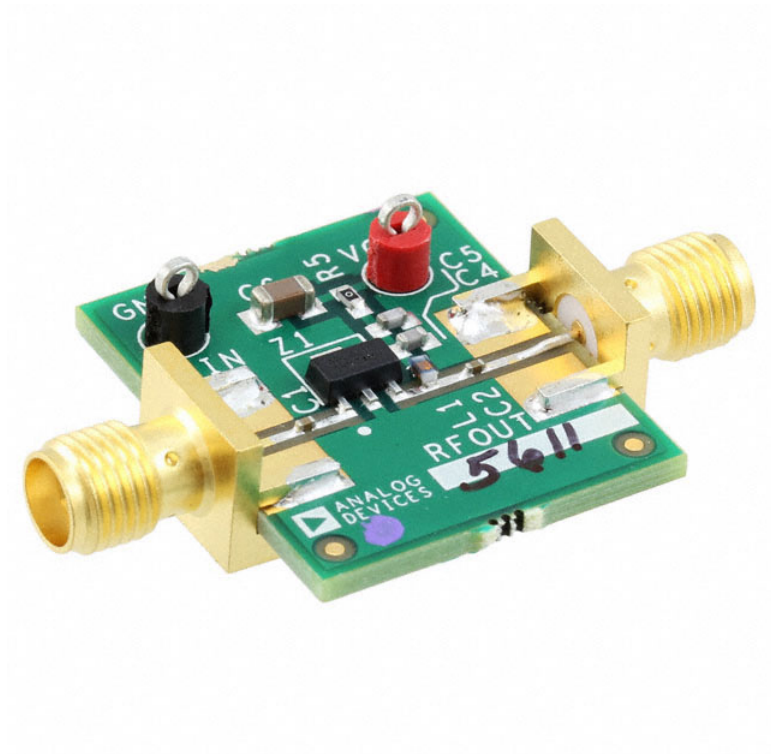

Figure 19: Evaluation board for ADI ADL5611.
6. Your final circuit will look similar, but may not be identical, to the ADL5611 evaluation board (Fig. 19).